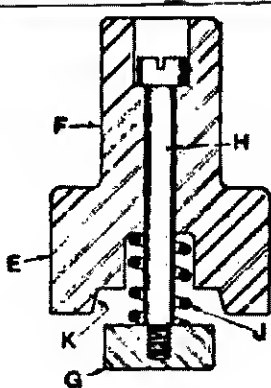

Fig. 16.—Cone-forming Tool
**Cone Forming Tool.**—A simple type of tool for forming the cone on the bottom of the box (see Fig. 15) is shown by Fig. 16. This operation is carried out after the beading operation previously described.
The operation of this tool is as follows: The beaded shell is first placed in the die ring *b* as shown dotted in Fig. 16. As the top tool descends the pressure pad *g* engages the bottom of the box and ensures its being seated properly in the die ring. The coned recess *k* then engages the rim of the box, closing it in conically. The position of the top tool at the end of its travel is shown in Fig. 17. Upon the upward travel of the top tool the shell is ejected by the pressure pad *g*. It therefore remains in the die ring *b*, being removed from this by the operator of the press. The tool shown in Figs. 16 and 17 is for coning a flat-bottom box (see Fig. 15). If it was required to cone a raised-bottom box as shown in Fig. 18 the tool would be slightly different. The difference would be that the pressure pad *g* and the "bottoming" plate *d* would have to be made to conform to the contour of the raised bottom.